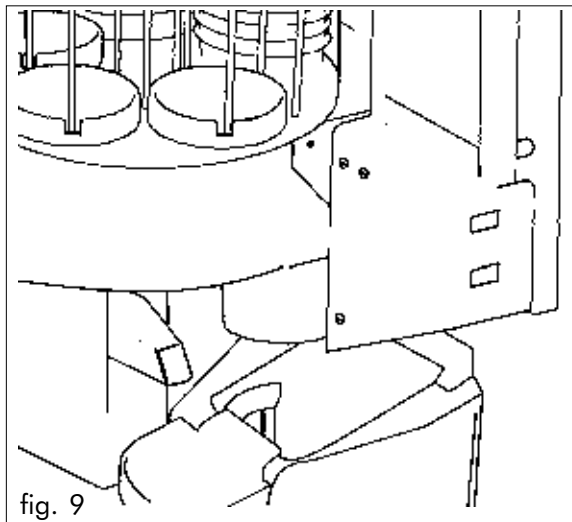

fig. 9
- The electromagnet that controls the spoon is engaged and the spoon is expelled directly into the cup through a proper chute (fig.9).